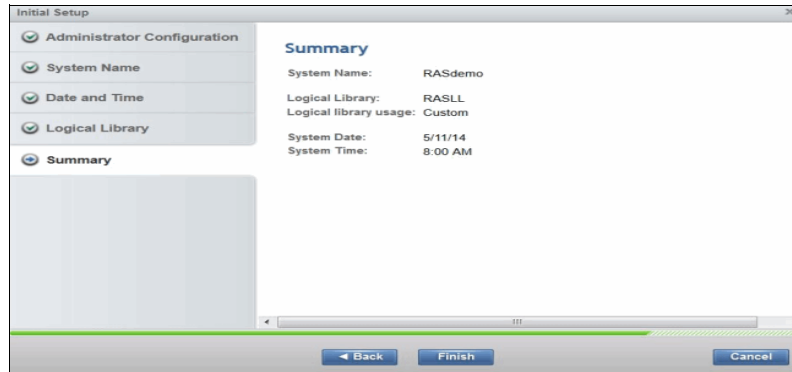

Figure 4-8 Summary
4. The window that is shown in Figure 4-8 displays a summary of the settings that were configured in the previous steps. Select **Finish** to complete the wizard and go to the main menu.